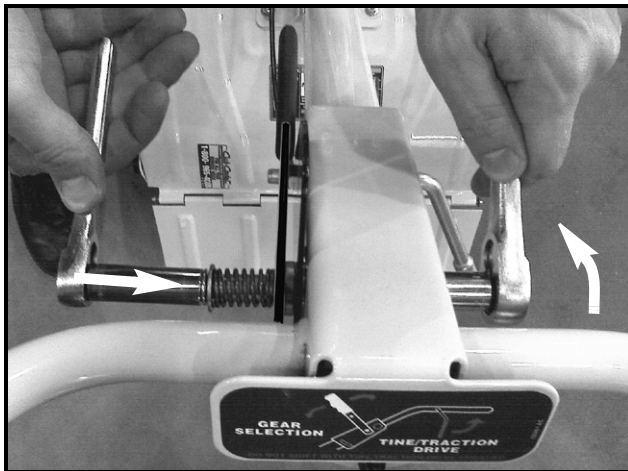

FIGURE 8
17. Using a second 1/2" socket (short) and ratchet on the head of the 4.50" screw, compress the spring until the nut is in contact with the screw threads and rotate the head of the 4.50" screw to start the screw threads into the nut. See Figure 8.